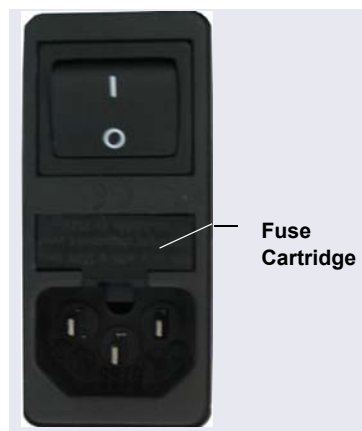

Figure 9-13. DP/SP Fuse Cartridge
5. The fuse cartridge is located next to the main power switch (see Figure 9-13). Use a small screwdriver to remove the fuse cartridge.